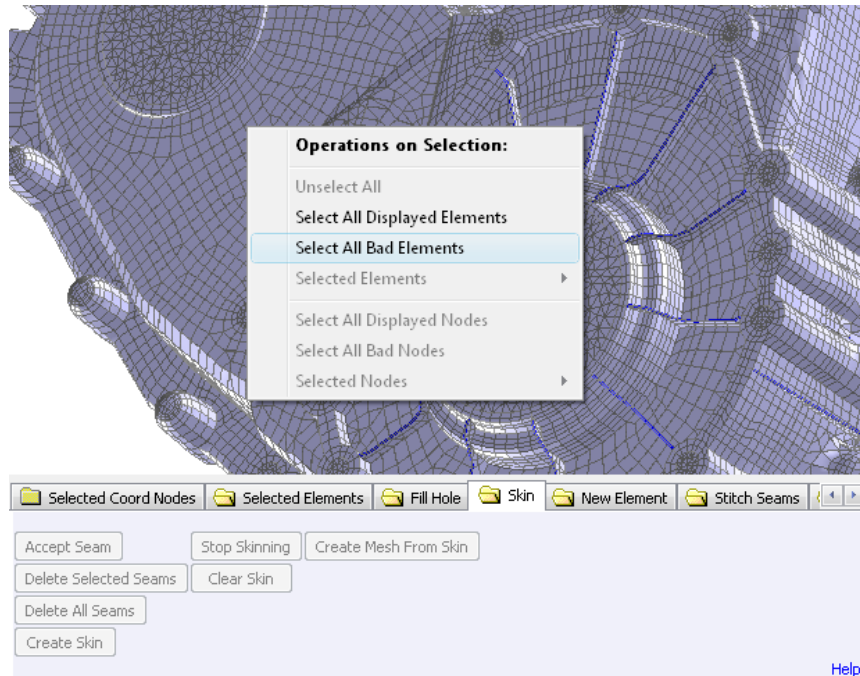

Figure 5.34 Select all Bad Elements.
- Select all Bad Elements in the FE mesh by right-clicking on the GUI while holding down the *shift-key* and choosing **Operations on Selection** → **Select all Bad Elements**. (Figure 5.34)